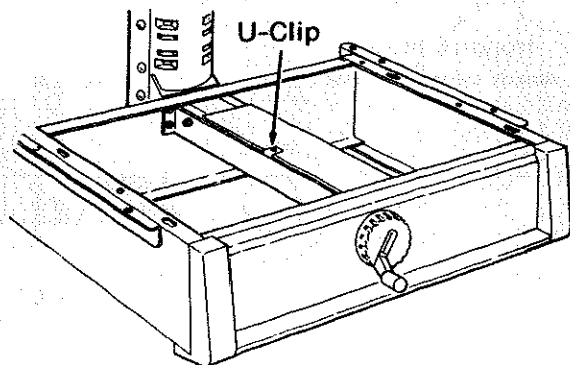

Fig. 43
3. Slide a *U-clip* onto the center channel of the *saw* as shown. (Figure 43)